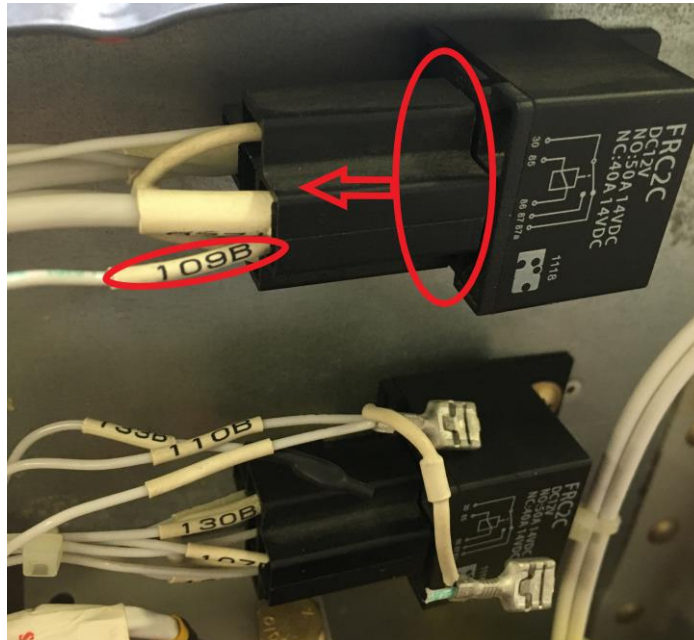

Fig. 21: Plug
19) Pull the plug out of the relay (See Fig. 21)